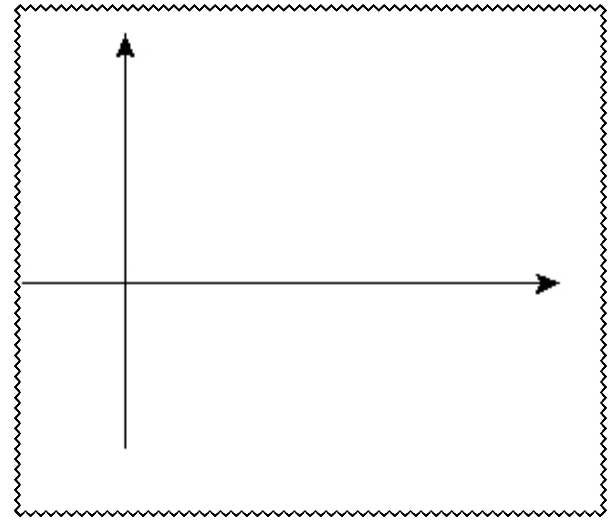

Fig. 2
13. Using the measurements from the previous steps, sketch a Bode plot in Fig. 2 and indicate maximum gain, the gain at the corners; upper cut-off frequency (F_H) and lower cut-off frequency (F_L .)